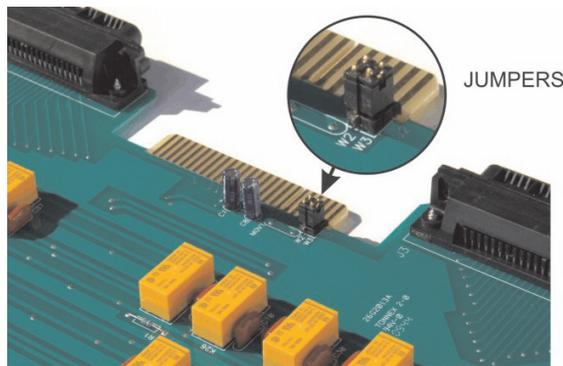

Figure 12: Jumper Location
- 2) Locate the J2 jumpers which are positioned near the bottom of the backplane connector. These individual jumpers are labeled W2 and W3 on the card surface (Figure 12).